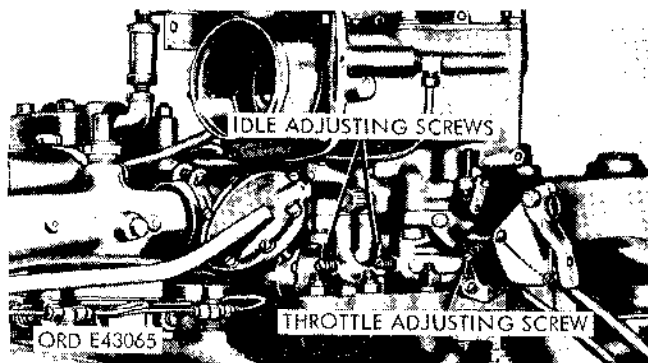

Figure 2-65. Idle and throttle adjusting screws.
(1) *Throttle adjustment.* The throttle adjusting screw (fig. 2-65) controls the degree of throttle valve plate opening when the throttle valve lever is in the idling position and is adjusted as indicated below.
(c) Turn the idle adjusting screws (fig. 2-65), one at a time, until the vacuum gage indicates the highest steady manifold vacuum. Turning the idle adjusting screws in (clockwise) provides a leaner idle mixture, and turning the idle adjusting screw out (counterclockwise) provides a richer idle mixture.
(b) Turn one idle adjusting screw (fig. 2-65) in (clockwise) until the engine speed begins to drop; then turn the adjusting screw out (counterclockwise), counting the number of turns, until the engine speed again begins to drop.